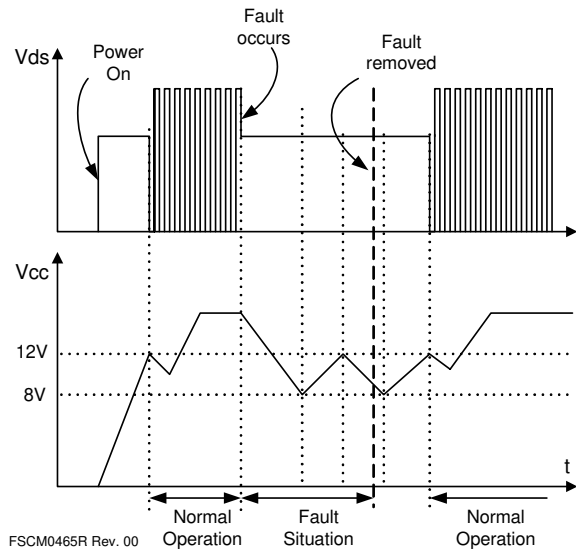

Figure 20. Auto Restart Operation
3. Protection Circuit: The FSCM0465R has several self-protective functions, such as overload protection (OLP), over-voltage protection (OVP) and thermal shutdown (TSD). Because these protection circuits are fully integrated into the IC without external components, the reliability is improved without increasing cost. Once the fault condition occurs, switching is terminated and the SenseFET remains off. This causes V_{CC} to fall. When V_{CC} reaches the UVLO stop voltage of 8V, the current consumed by the FSCM0465R decreases to the startup current (typically $20\mu A$) and the current supplied from the DC link charges the external capacitor (C_a) connected to the V_{CC} pin. When V_{CC} reaches the start voltage of 12V, the FSCM0465R resumes normal operation. In this manner, the auto-restart can alternately enable and disable the switching of the power SenseFET until the fault condition is eliminated (see Figure 20).